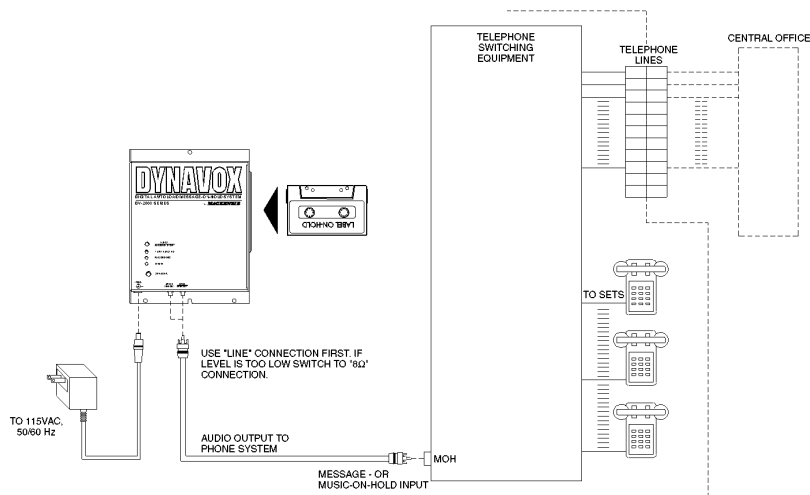

Figure 2
2.2. Connecting Power (Figure 2)
2.3. Connection to Telephone Equipment (Figure 2)